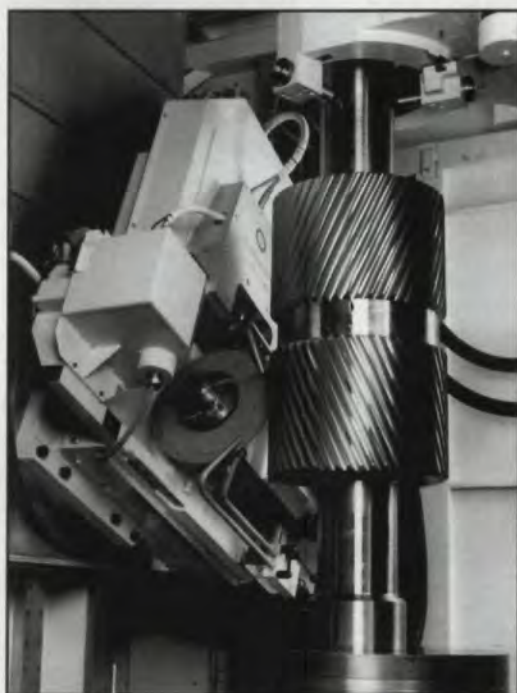

Fig. 8 — CNC 2-axis integrated dressing unit on a Pfauter 1600 mm profile grinding machine.
1. Integrated dressing units capable of dressing any of the available wheel media using diamond dressing wheels (see Fig. 8);